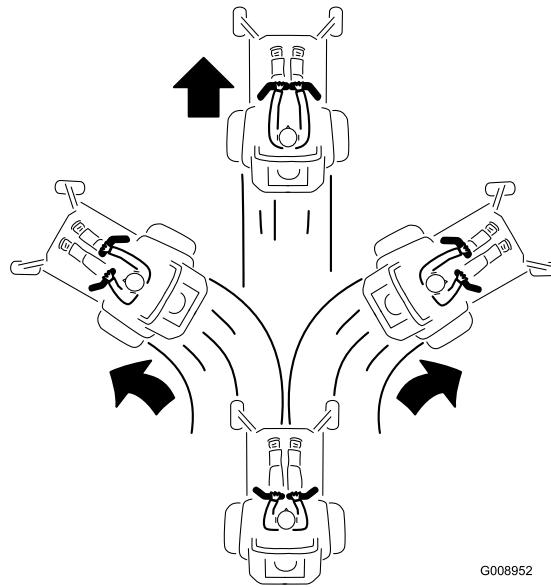

Figure 18
- To go forward, slowly push the motion-control levers forward (Figure 18).